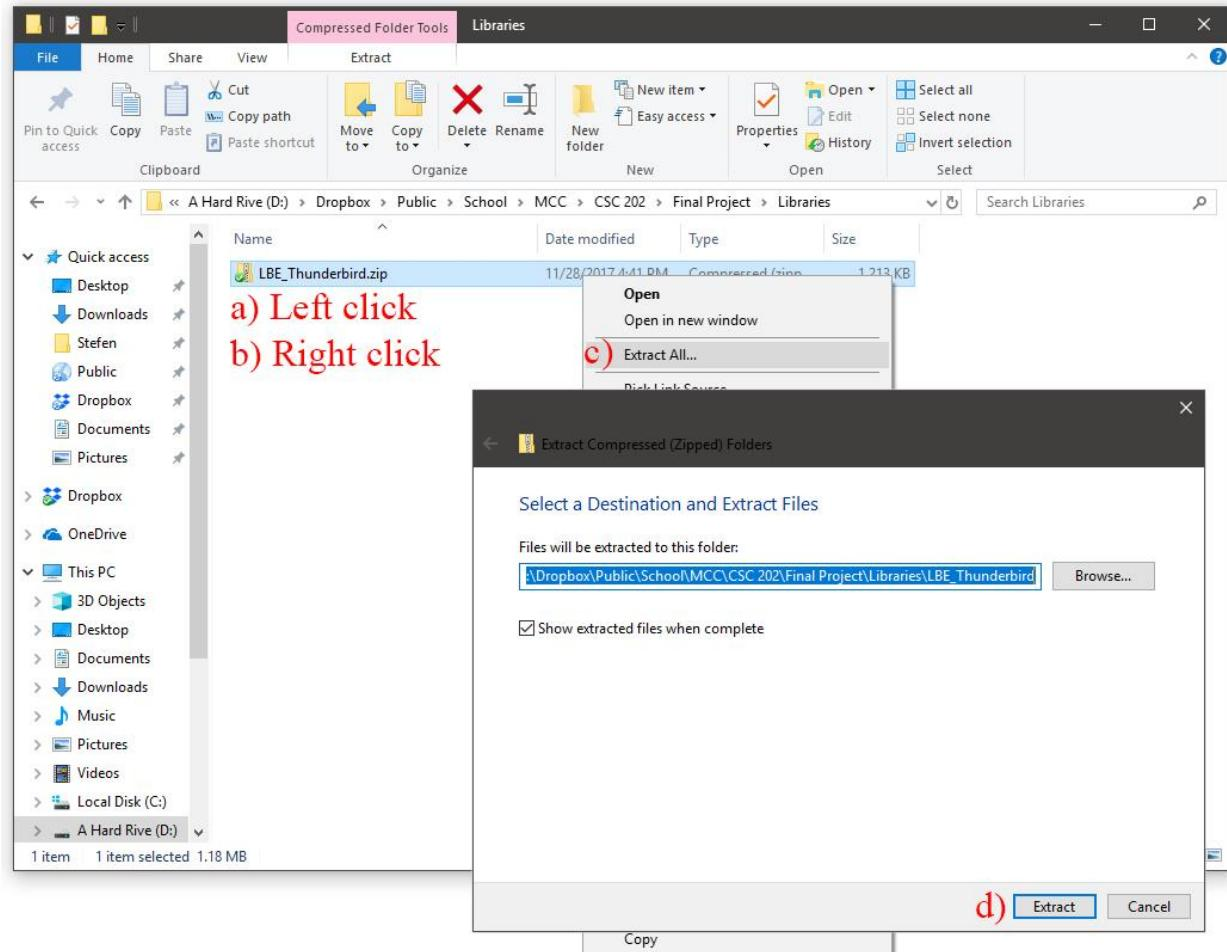

Figure 9-1 – Extracting LCD_Thunderbird software library
- d. The default extraction directory is the same directory as the ZIP file. To modify it, either type in the desired directory or click “Browse...,” find the desired directory, and click “Select Folder.” For this documentation, the extracted directory will be the untouched. Refer to Figure 9-1 for illustrated instructions.